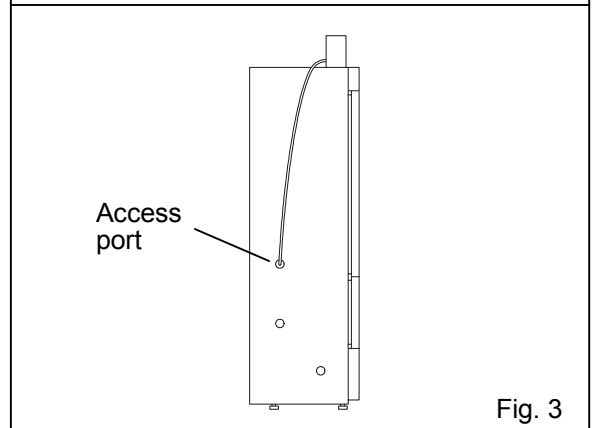

Fig. 3
3. Remove the caps (both outside and inside) covering the access port for refrigerator and take out the thermal insulation in the access port. Pass the recorder sensor to the refrigerator through the access port [Fig. 3]. Then replace the thermal insulation and caps (both outside and inside).
3. Remove the cap on the port for taking out the recorder sensor and take out the recorder sensor. Then set the temperature recorder with recorder fixing to the space for temperature recorder. [Fig. 3]
3. Remove the connector cover on the unit by pushing the lock under the cover. Connect the power supply connector of the temperature recorder with the connector on the unit. [Fig.3]